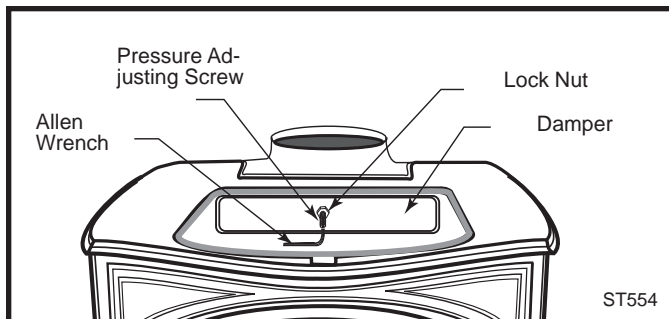

Fig. 32 Adjust the damper with the Allen wrench.
1. Remove the griddle. Loosen the lock nut at the center of the damper. (Fig. 32)